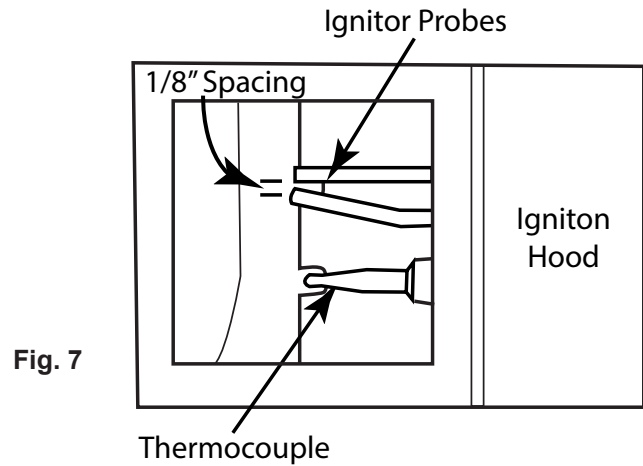

Fig. 7
Step #7: Install the ignition hood over top of the probe assembly into the existing pre-punched holes of the burner pan by using the five thread cutting screws previously removed (See Fig. 7).
Ensure the Thermocouple and ignitor are overtop of the notched area of the hood as seen in Fig. 7 for proper ignition and operation.
Step #13: Test the ignitor by pushing and holding the red button to ensure the 2-probe ignitor is sparking inside the ignition box in the burner pan. The spark should be located directly overtop of the burner port hole for proper ignition of the gas as previously discussed. Spacing between the probes should be approximately 1/8" for proper spark. Use Fig. 7 for reference.
4. Gas should ignite within 10 seconds or less. If fire pit does not light within 10 seconds turn **OFF** the gas supply. Check ignitor probe location (Fig. 7), ensure there is an 1/8" gap between the probes with a good strong spark then repeat steps 2 through 4.